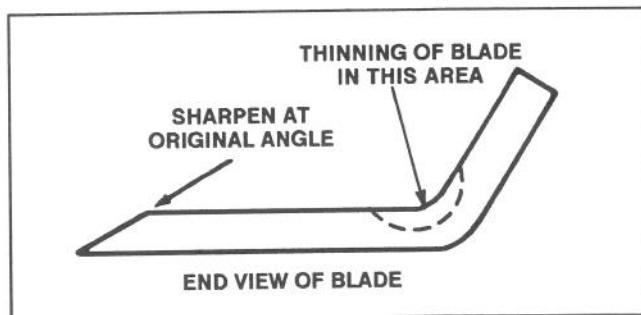

Figure 22
7. Using a file, sharpen the cutting edge at both ends of the blade (Fig. 22).
Check the cutter blade every time rider is tipped on end. If the blade bolt holding blade is loose, tighten it to 45-60 ft-lb (61-81 Nm). If blade or sabb (Fig. 22) at end of blade is worn, eroded, or cracked, replace it. Replace the blade if it is bent. Always use genuine TORO replacement blades to ensure safety and best performance. NEVER USE WILL-FIT REPLACEMENT BLADES.